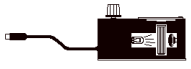

Figure 1
The primary objective of this experiment is to determine the concentration of an unknown nickel (II) sulfate solution. You will be using the Colorimeter shown in Figure 1. In this device, red light from the LED light source will pass through the solution and strike a photocell. The NiSO_4 solution used in this experiment has a deep green color. A higher concentration of the colored solution absorbs more light and transmits less light than a solution of lower concentration. The computer-interfaced colorimeter monitors the light received by the photocell as either an absorbance or a percent transmittance value.